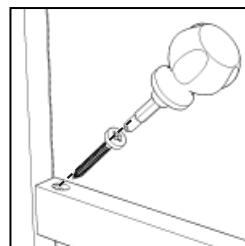

Figure 2
Attach Stretcher (D) to unit with Wood Screw. (See Figure 2)